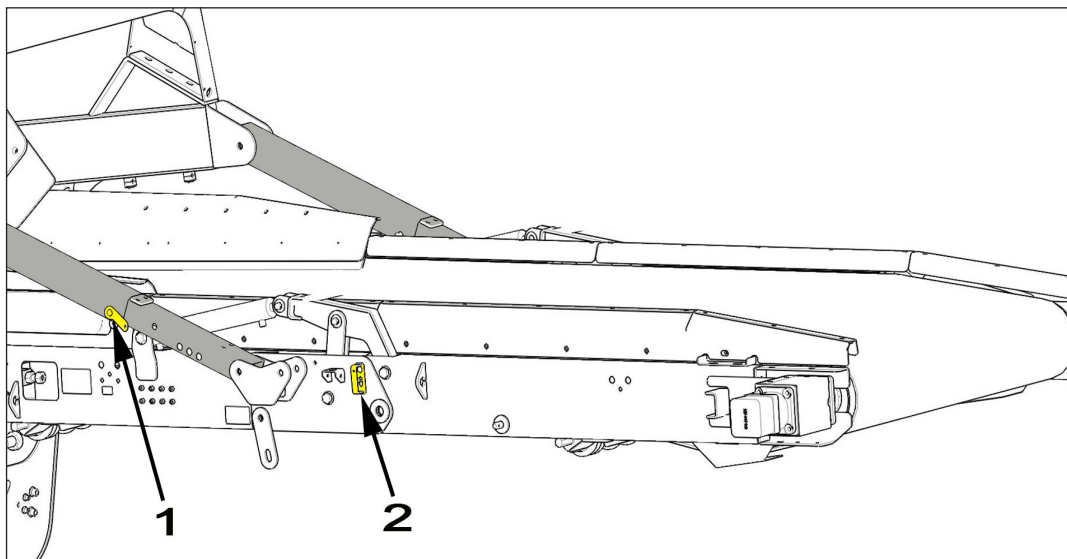

Figure 5.7 - Tail Conveyor Pins Working Position
1. Remove pins (1) and (2) from either side of the tail conveyor Figure 5.7.